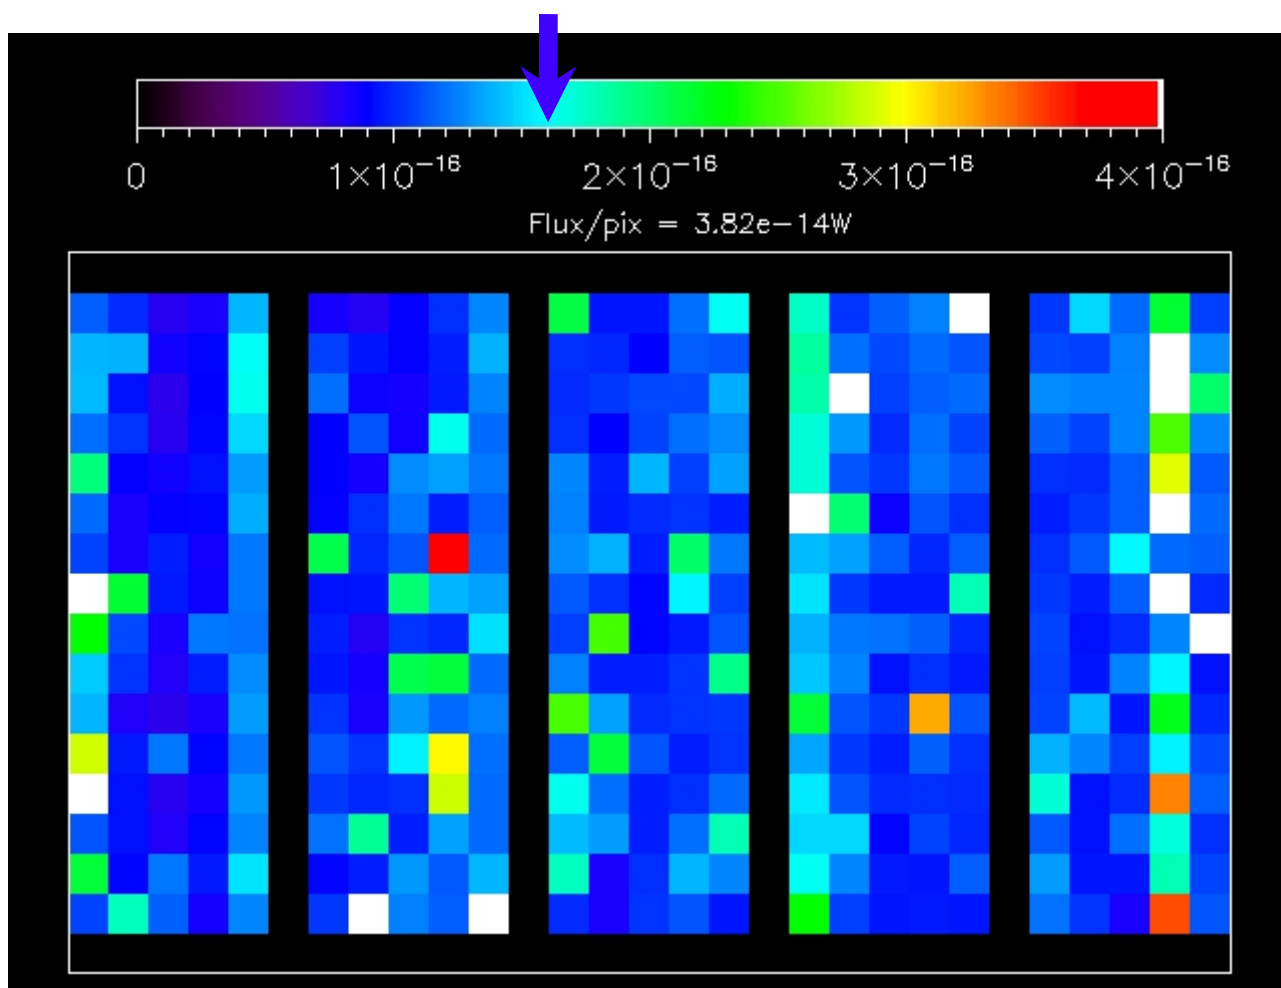

Fig.6: NEP map of the blue spectrometer in ILT-3. The arrow indicates that colour that corresponds to the requirements.
- *Spectrometer responsivity*: the NEP map (Figure 6) shows, in addition to a complete illumination of the array, that all pixels are close to or better than the specification.